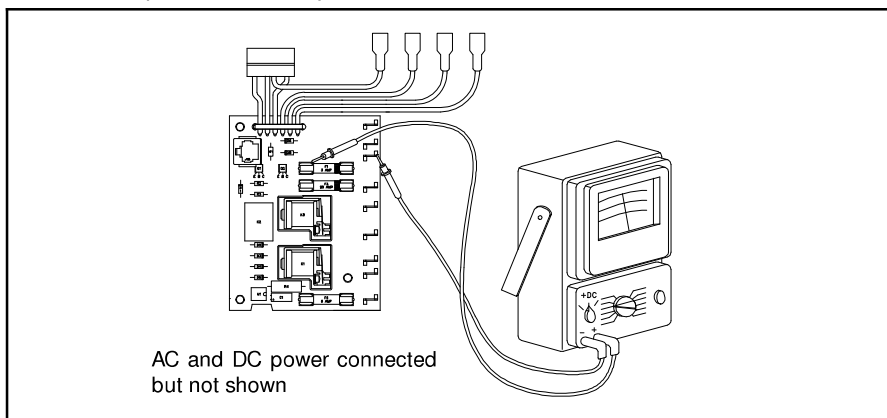

Figure 11.35 3 Amp Fuse Check
5. With the volt-ohm-meter set to measure + 12 volts DC, check for 12 volts across the fuse as shown by Figure 11.35. If you do not have 12 volts, replace the 3 amp fuse.